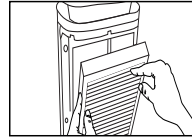

Fig. 7
3. Remove the HEPA filters from the main unit. Fig. 7